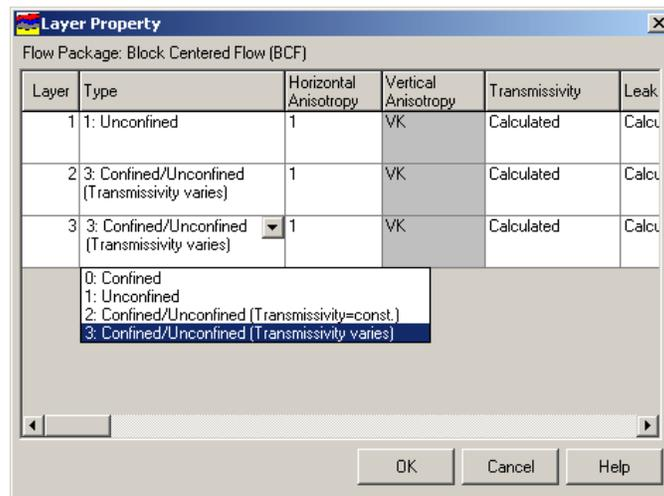

Fig. 1.5. The Layer Options dialog box and the layer type drop-down list
2. Click a cell of the Type column, a drop-down button will appear within the cell. By clicking the drop-down button, a list containing the available layer types (Fig. 1.5) will be displayed.